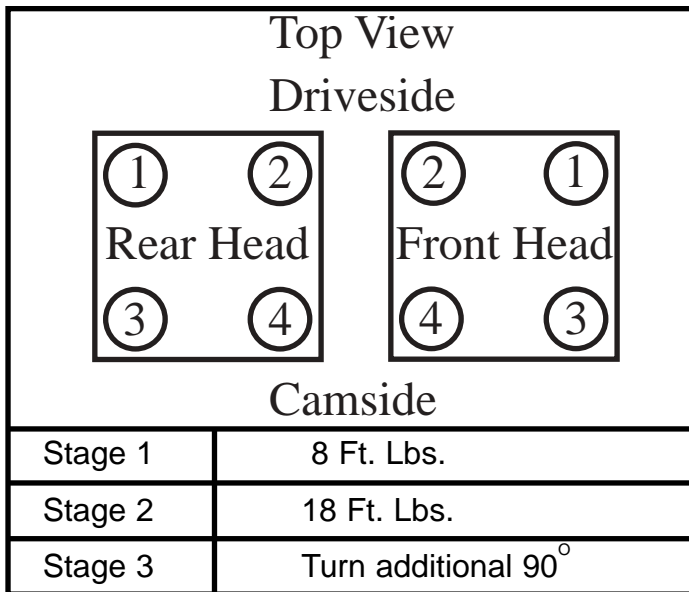

Figure 2
3. Bolt heads on cylinders. Use three stage procedure and torque values. **See Figure 2.**